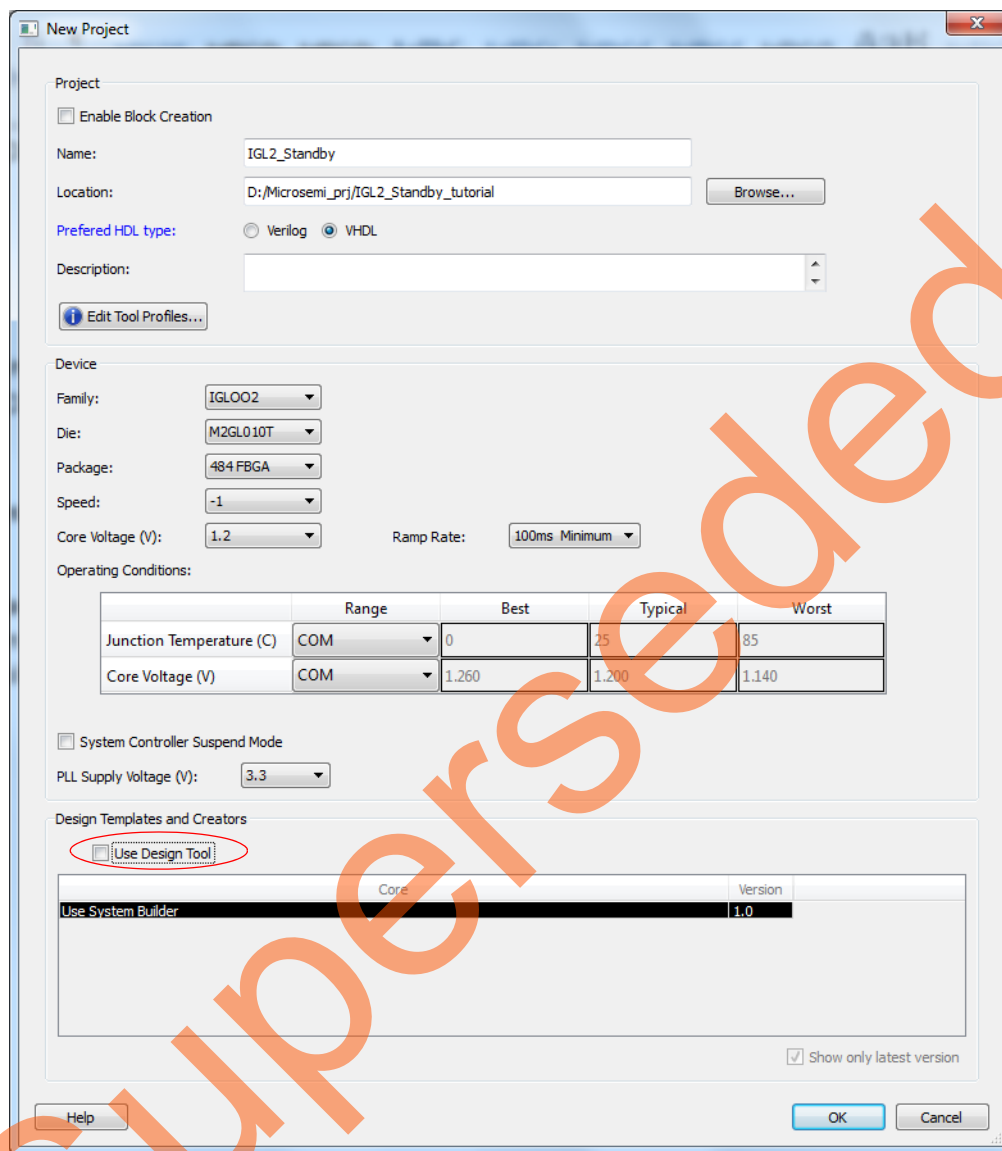

Figure 3 • Libero SoC New Project Parameters
2. Create a new project by selecting **New** on the **Start Page** tab (highlighted in Figure 2), or by clicking **Project > New Project** from the Libero SoC menu. **New Project** dialog box opens (see Figure 3).
- Core Voltage (V): 1.2
- PLL Supply Voltage (V): 3.3
- Use Design Tool: Un-checked (circled in Figure 3)